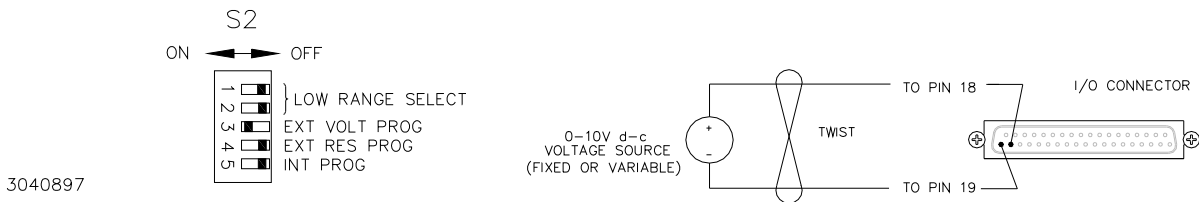

FIGURE 3-2. EXTERNAL VOLTAGE PROGRAMMING OF OUTPUT VOLTAGE
- c External Voltage Programming:** When enabled via S2-3, this mode provides for output voltage adjustment via an external voltage source (0-10V) connected between pins 18 and 19 (VPROG, -S) of the I/O connector (see Figure 3-2). This technique is useful when implementing digital control of the power supply output voltage via a D/A converter; Kepco's SN/SNR 488 programmers are ideally suited to these requirements